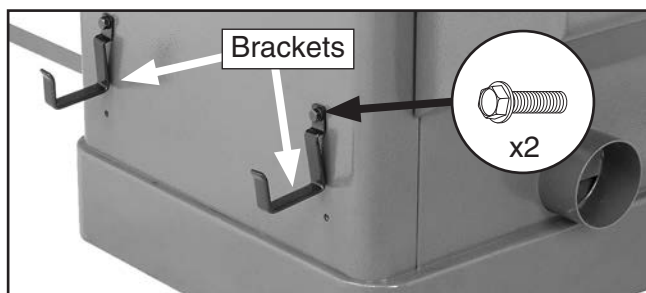

Figure 42. Fence resting brackets installed.
7. Install the fence resting brackets (**Figure 42**) onto the back of the cabinet with the two M8-1.25 x 12 flange bolts.